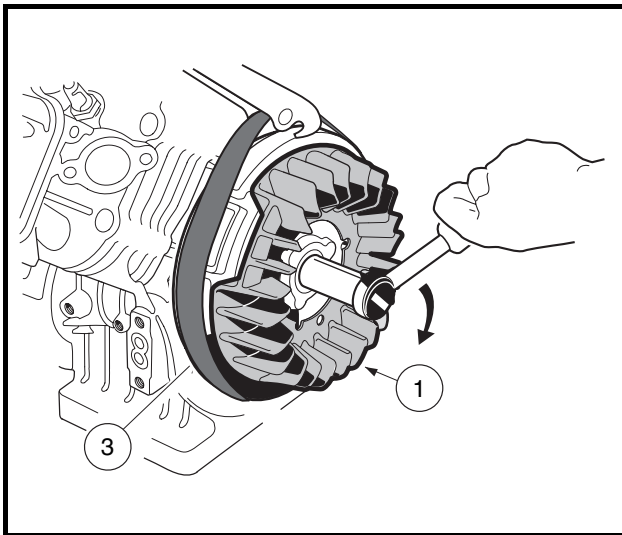

Figure 13-11 Fan and Flywheel Installation
2. Use a strap wrench (3) to keep the flywheel and fan assembly (1) from turning while tightening the flywheel nut to 63 ft-lb (85.4 N·m) (**Figure 13-11, Page 13-9**). See following **CAUTION**.